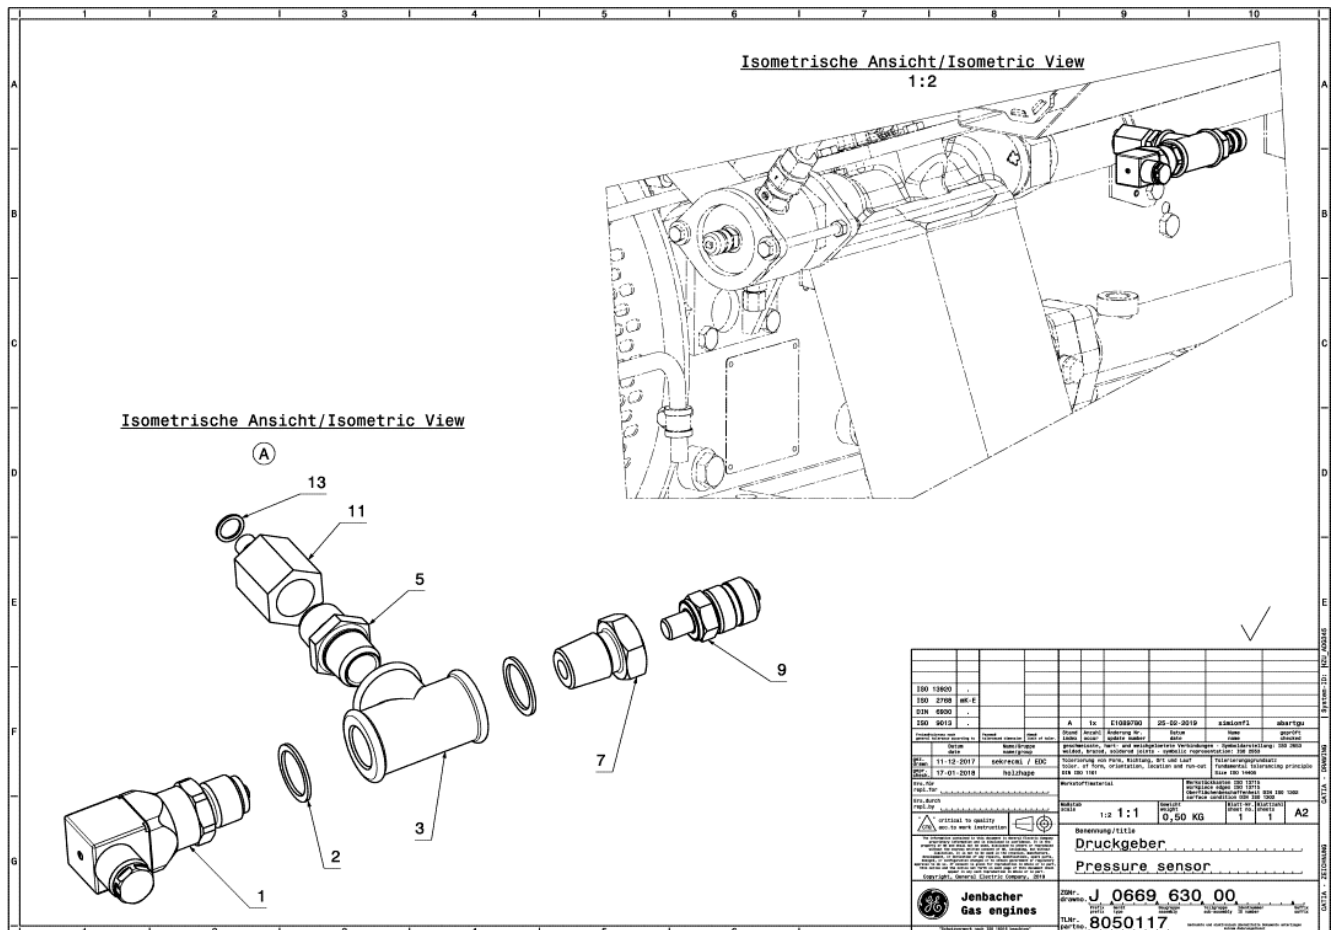

Figure 14: Drawing – Oil filter differential pressure module – PN8050117
The additional installation of a pressure transducer (see Figure 14) allows the differential pressure across the oil filter to be measured. This gives an indication of the condition of the oil filter.
Figure 14 shows the oil filter differential pressure module to be installed. After pre-assembly, the entire assembly is screwed into the provided thread. The screwing process is carried out via the adapter (pos. 11).